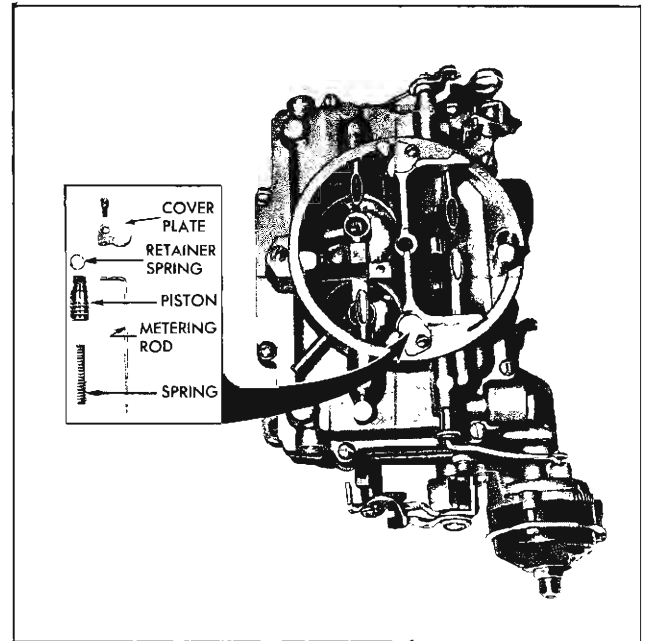

Fig. 70—Metering Rod Removal
3. Remove step-up piston cover plates, pistons and metering rods (fig. 70).
4. Remove screws holding two step-up position cover plates to air horn and remove cover, piston, step-up rod and spring (fig. 70).